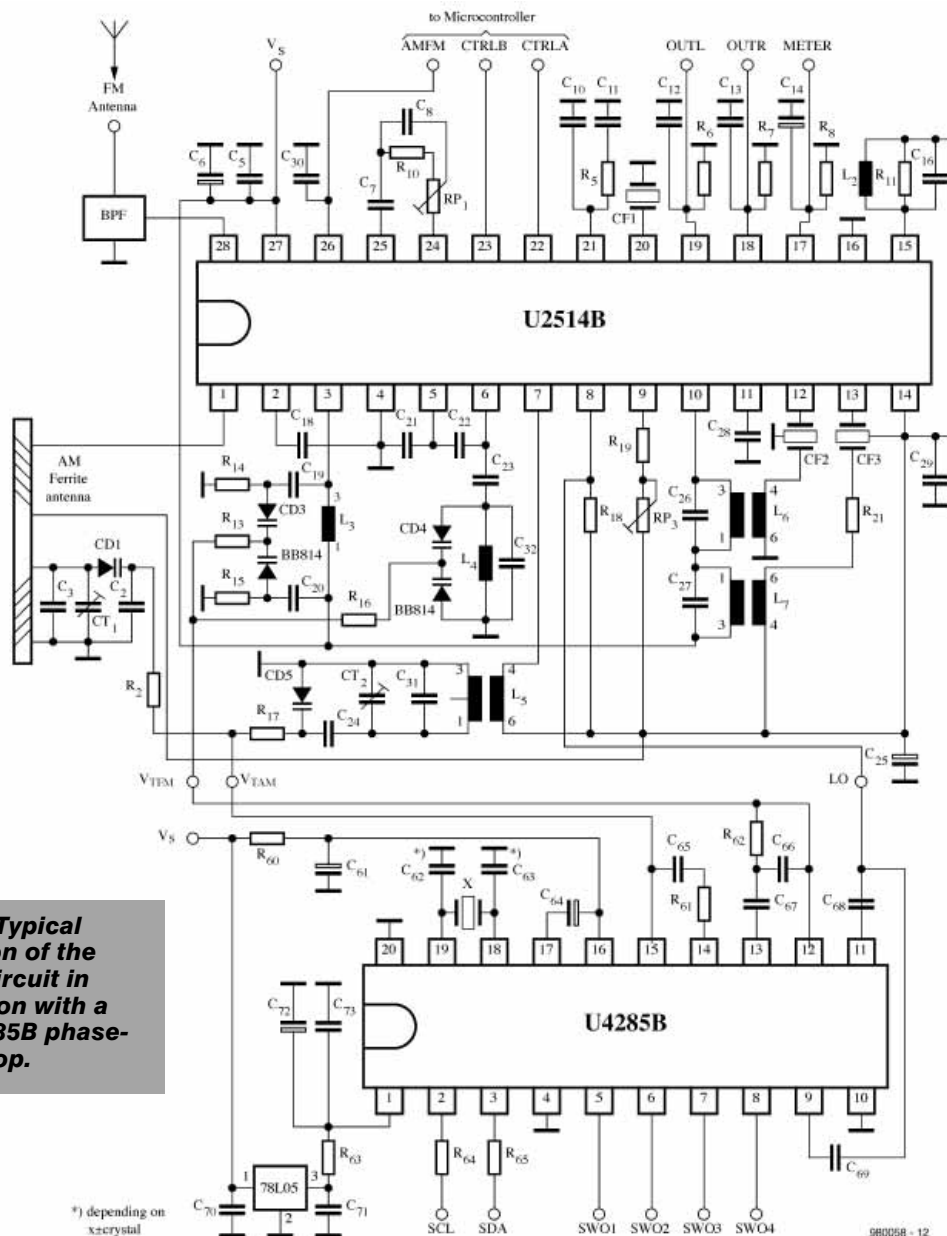

Figure 2. Typical application of the U2514B circuit in conjunction with a Type U4285B phase-locked loop.
The tiny circuit is best built on the printed-circuit board shown in **Figure 2**, but this is not available ready made. However, a small prototyping board will do very nicely as well.
Figure 2. The discharge circuit is intended for 1.2 V batteries. If several of these, or a 9 V rechargeable NiCd battery, have to be discharged, an appropriate number of PCBs are needed.
signals the input alternating current is bypassed via the wideband AGC transistor. A capacitor (C₁₈ in **Figure 2**), is connected between pins 2 (FMAGC) and 4 (GNDRF) to smooth the AGC voltage and to shorten the transistor base to ground (pin 4). A tuned r.f. (radio frequency) circuit is connected between pins 3 (FMRF) and 27 (VS). The amplified r.f. signal is fed internally to the mixer input.